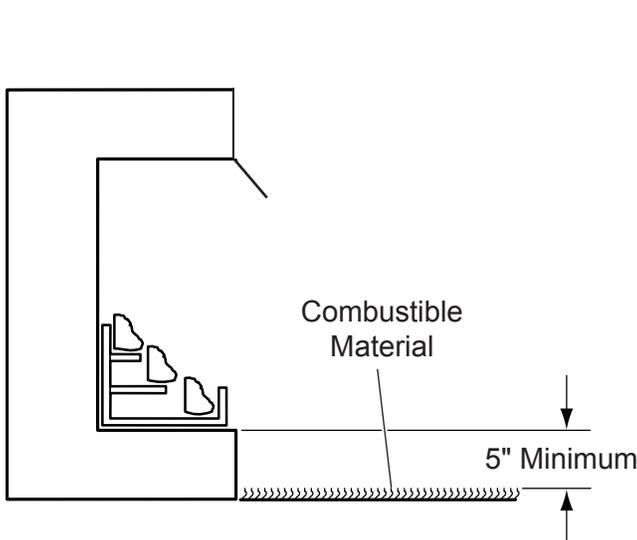

Figure 7 - Minimum Clearance above Combustible Flooring
5. **Floor clearance:** This inner chamber firebox floor must be installed at least 5" above any combustible flooring material, such as carpeting or asphalt tile, which is closer than 14" to the base of the firebox. *See Figure 7.*